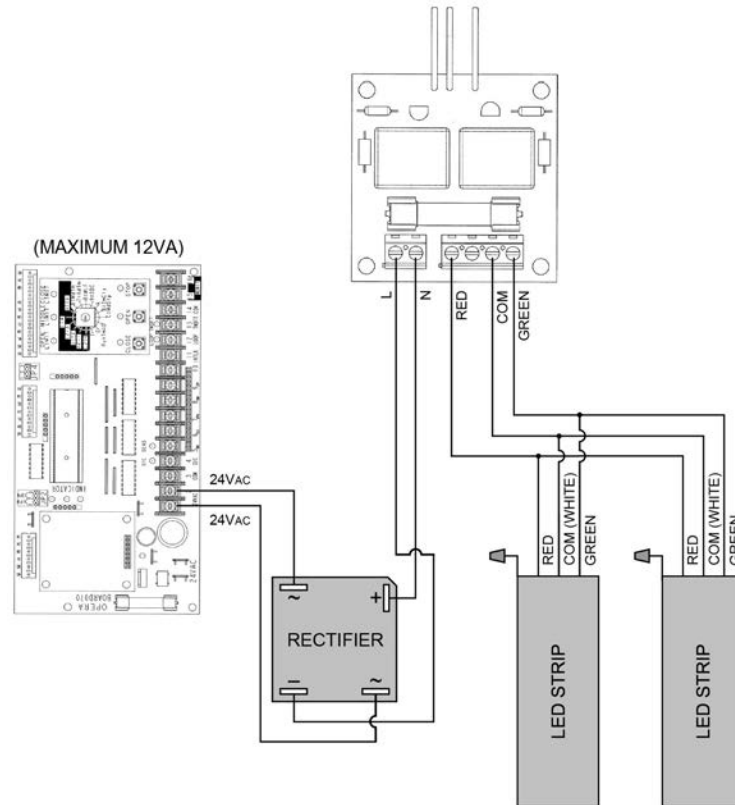

Figure 3 - LED Strip Wiring Diagram
- Connect the LED Strips as per Figure 3 below.